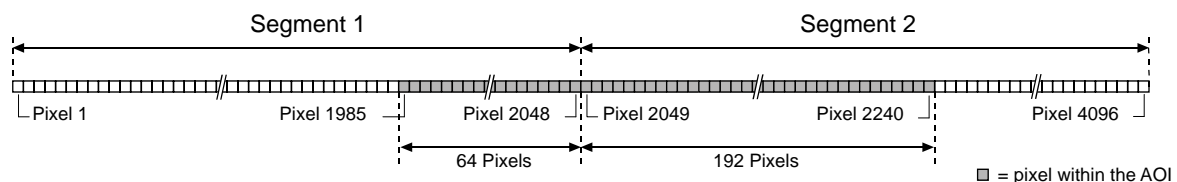

Fig. 57: AOI Falling Across Segments
- Suppose that for a 4k camera, the AOI starting pixel is set for 1985 and the length is set for 256. With these settings, the AOI falls across the two sensor segments as shown in Figure 57. Segment 1 includes 64 of the pixels in the AOI and segment 2 includes 192 of the pixels in the AOI. The Max Seg AOI Pixels in this situation would be 192 (because segment 2 contains the largest part of the AOI and the number of AOI pixels in segment 2 is 192).